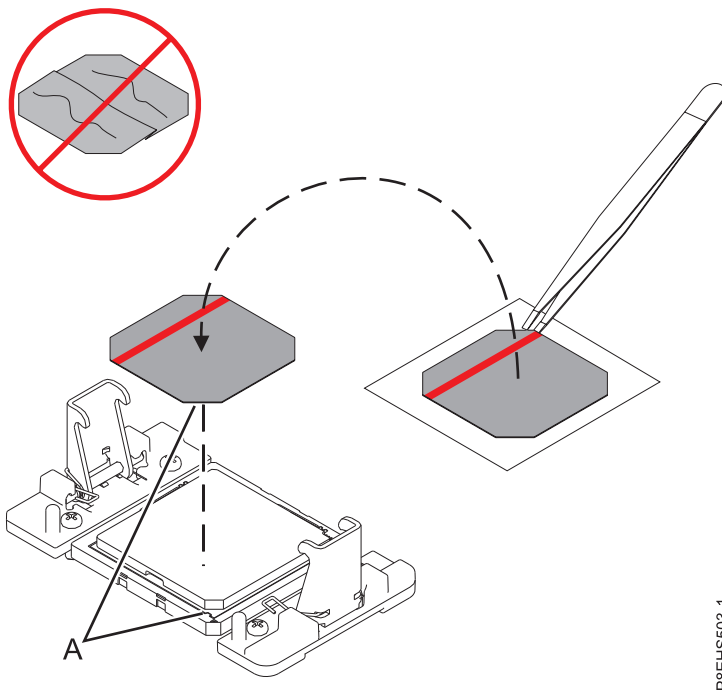

Figure 79. Installing the silver-colored TIM onto the processor. The red stripe must be up.
- c. Using the tweezers, remove the TIM from the carrier strip and center it onto the system processor module. The silver-colored TIM must have the red stripe up. Align the beveled edges of the silver-colored TIM and the system processor module (**A**), as shown in Figure 79.